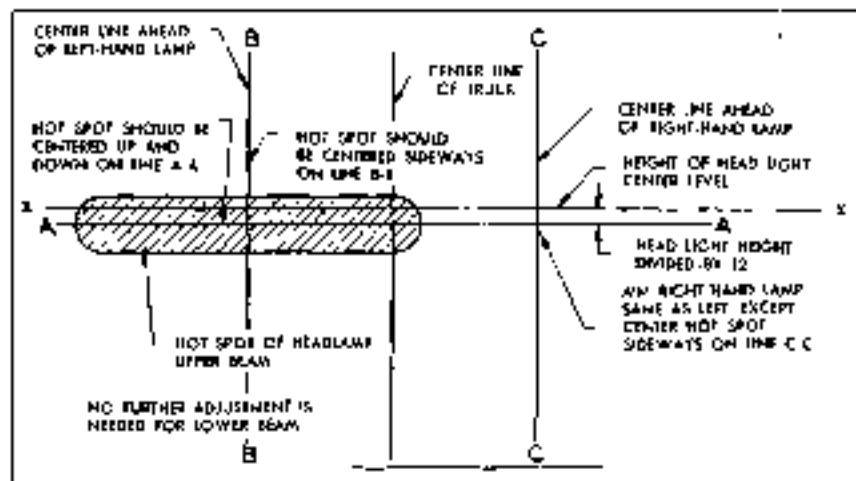

Figure 98.1 Head light adjustment.
c. (Added) AIMING ADJUSTMENT PROCEDURE (fig. 98.1).
- (1) Place unloaded truck on a smooth horizontal surface so that headlights are 25 feet away from a vertical wall or other vertical surface. The center line of the truck must be at right angles to the vertical surface.
- (2) Measure the height of the headlight center from the floor, and mark a horizontal line at this height on the vertical surface (line X—X, fig. 98.1).
- (3) Mark line A—A, below X—X, at one-twelfth the distance between line X—X and the floor.
- (4) Draw vertical lines B—B and C—C directly in front of each headlight.
- (5) Turn on headlights at main light switch and select high beam with dimmer switch. It is not necessary to make adjustment on low beam.
- (6) Loosen headlight mounting bolt nut on each headlight. Cover one headlight and aim the other so that the center of the zone of greatest intensity (hot spot) is centered at the intersection of lines A—A and B—B or A—A and C—C, depending on which headlight is being aimed. Tighten the headlight mounting bolt nut securely, making sure adjustment is not disturbed. Aim the other headlight in the same manner.
- (7) After each headlight is aimed separately, check both headlights simultaneously for conformity to line A—A.